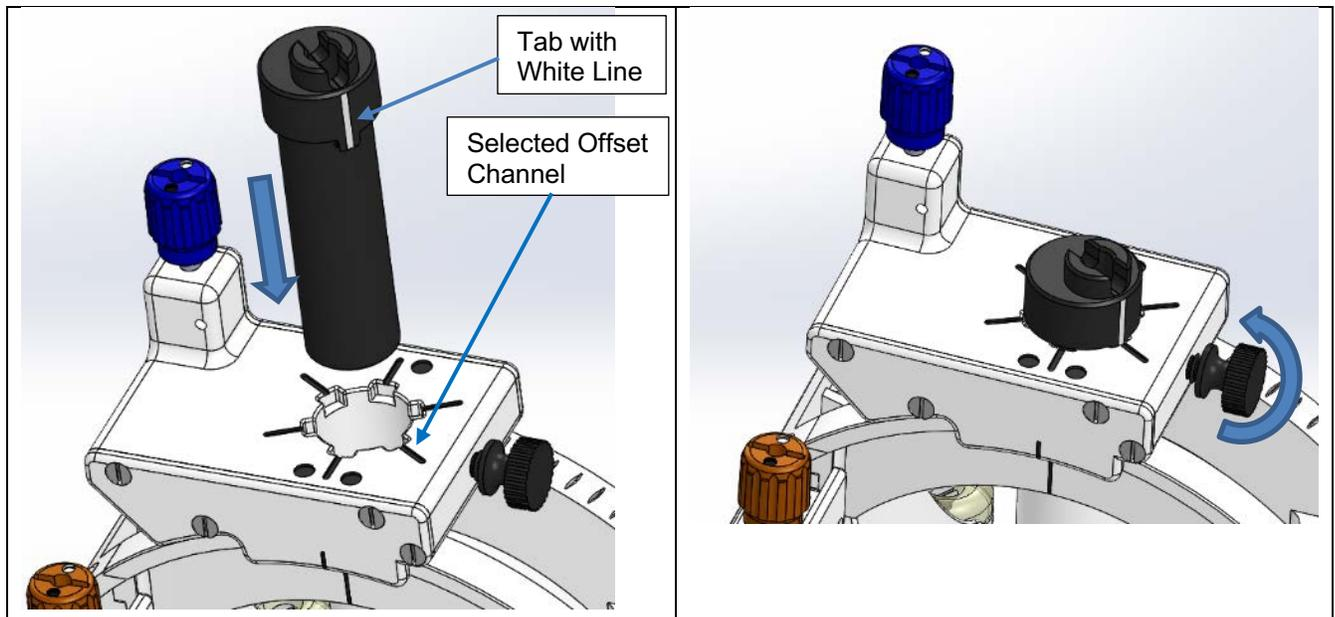

Figure 123: Offset Drill Guide Inserted into the desired offset position on the SMARTFrame Array tower
3. If the OFFSET GUIDE was selected, line up the side tab with the channel position line on the tower. The orientation dots on the tower match those shown in the Software. **See Figure 2222 and Figure 123.**
4. Insert the Guide so that the tab clicks into the slot that corresponds to the selected channel. **See Figure 123.**